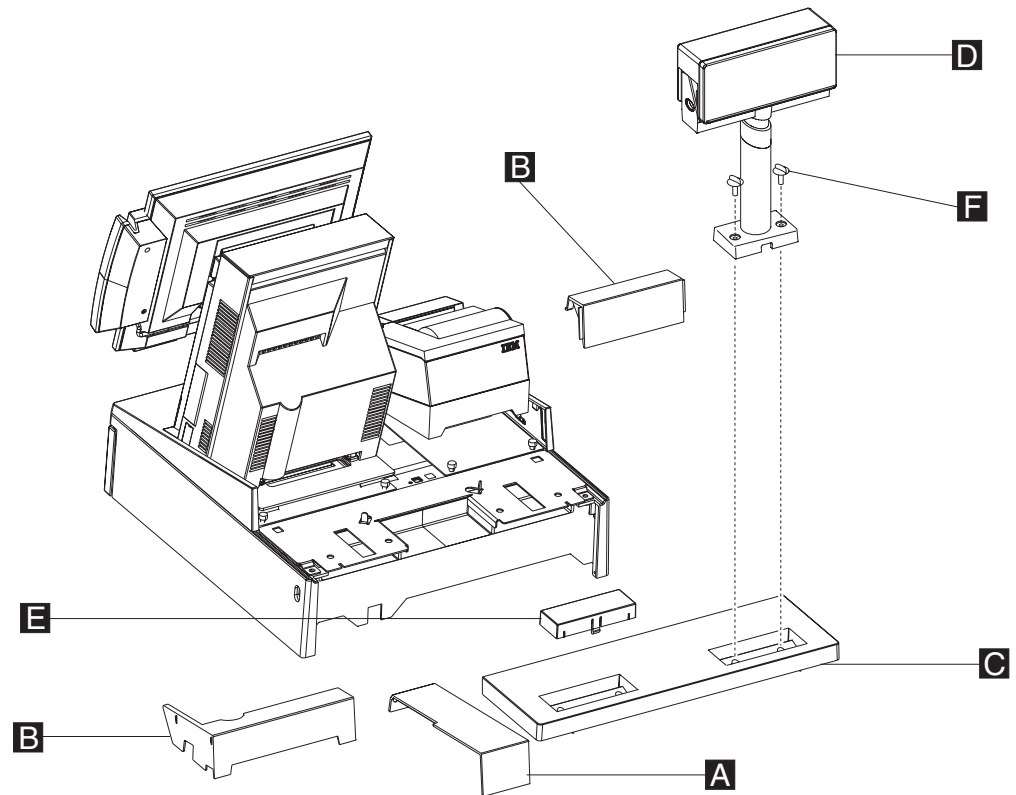

Figure 65. Removing rear modesty cover and distributed customer display
3. Remove the rear cover **C** as shown in Figure 65 on page 89 (together with the distributed customer display **D**, if one is installed) and set it aside. It is not necessary to disconnect the cable from the display.